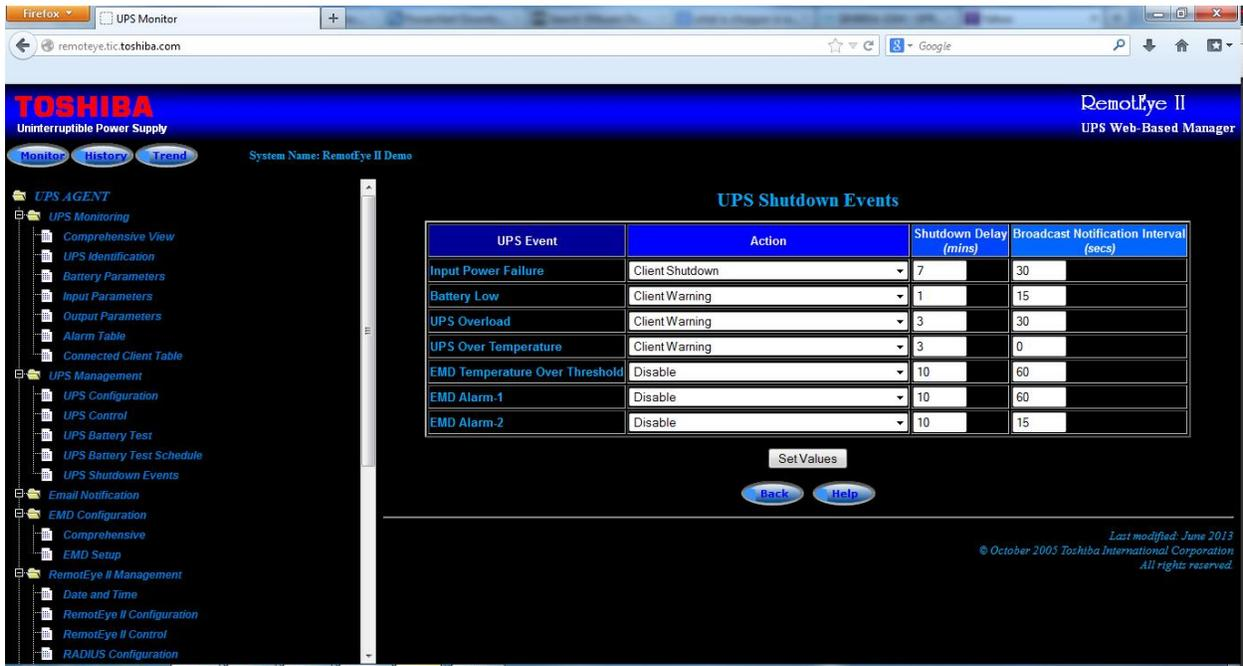
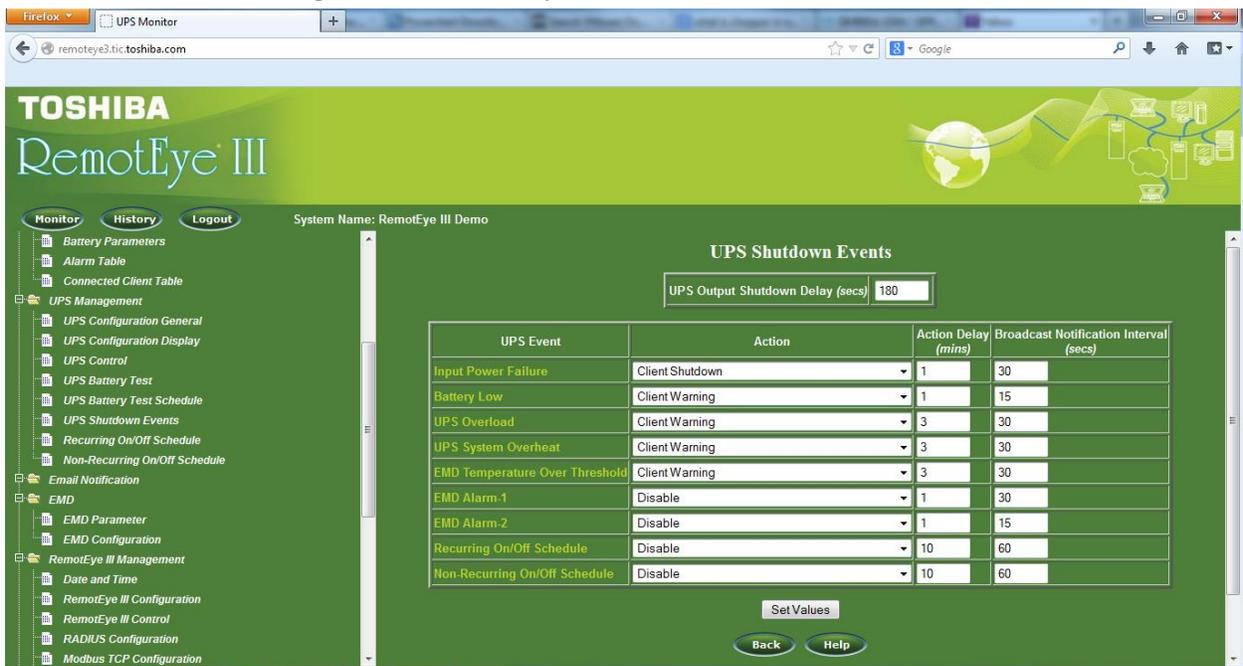

Figure 0-10 RemotEye II UPS Shutdown Events Table
Figure 0-11 RemotEye III UPS Shutdown Events Table
- 19.1.1. In the UPS Shutdown Events table, select the action (Disable, Client Warning, or Client Shutdown) and Shutdown Delay (if applicable), for each event listed in the UPS Event column. (See and Figure 0-10 and Figure 0-11)